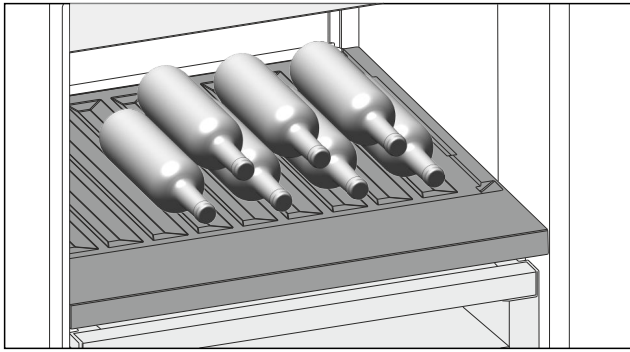

Fig. 134 Example illustration
- ▶ Place bottles in the back row with their bases against the back wall. (see Fig. 134)